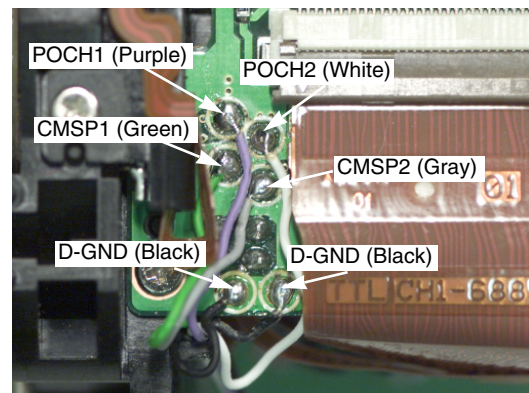

Fig. 3-24 Main flex lead wires
2. Desolder the six lead wires on the left side of the AF flex connector. (Fig. 3-24)